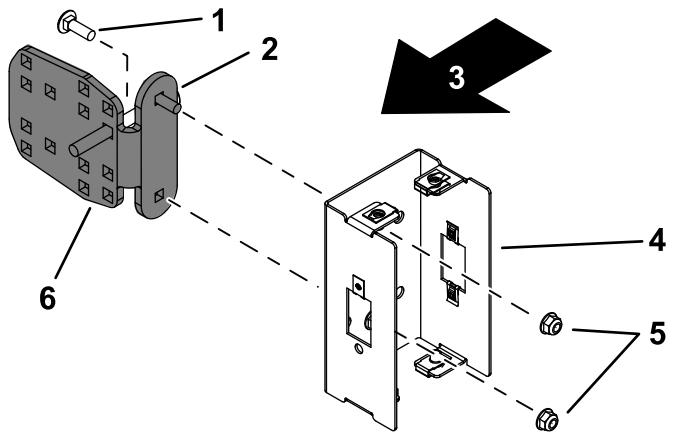

Figure 2
- 4. Install the mounting bracket to the light bracket as shown in Figure 2.
Note: Ensure the mounting-bracket tab is pointing backwards (Figure 2).